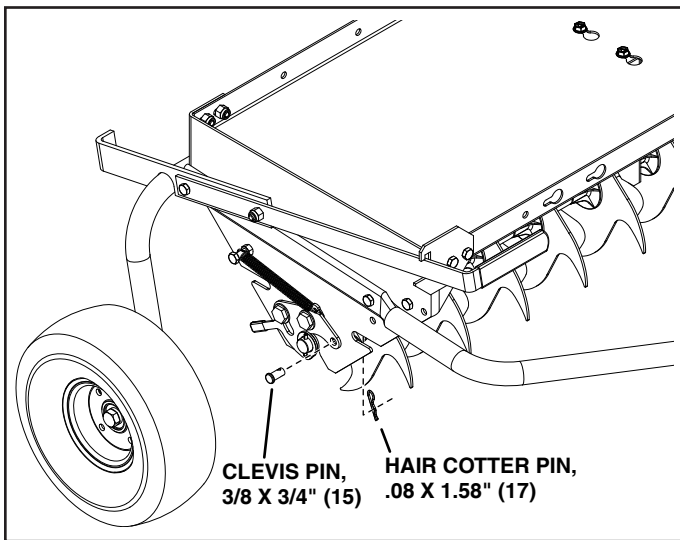

FIGURE 14
1. Secure each axle retainer to the tray assembly with a 3/8 x 3/4" clevis pin (15) and .08 x 1.58" hair cotter pin (17). See figure 14.
1. To remove a tool from the Smartlink Platform, remove the 3/8 x 3/4" clevis pins (15) and .08 x 1.58" hair cotter pins (17) securing the axle retainers to the tray assembly. See figure 14.
2. Use the handles on the axle retainers to unlock the tool, then remove it from the Smartlink Platform. See figure 14.